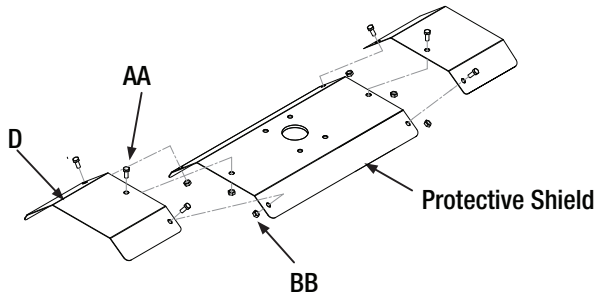

Figure 1-5
- Align holes on the protective shield end caps (D) to the main protective shield, and secure with M6x16 bolts (AA) and M6 nuts (BB). See Figure 1-5